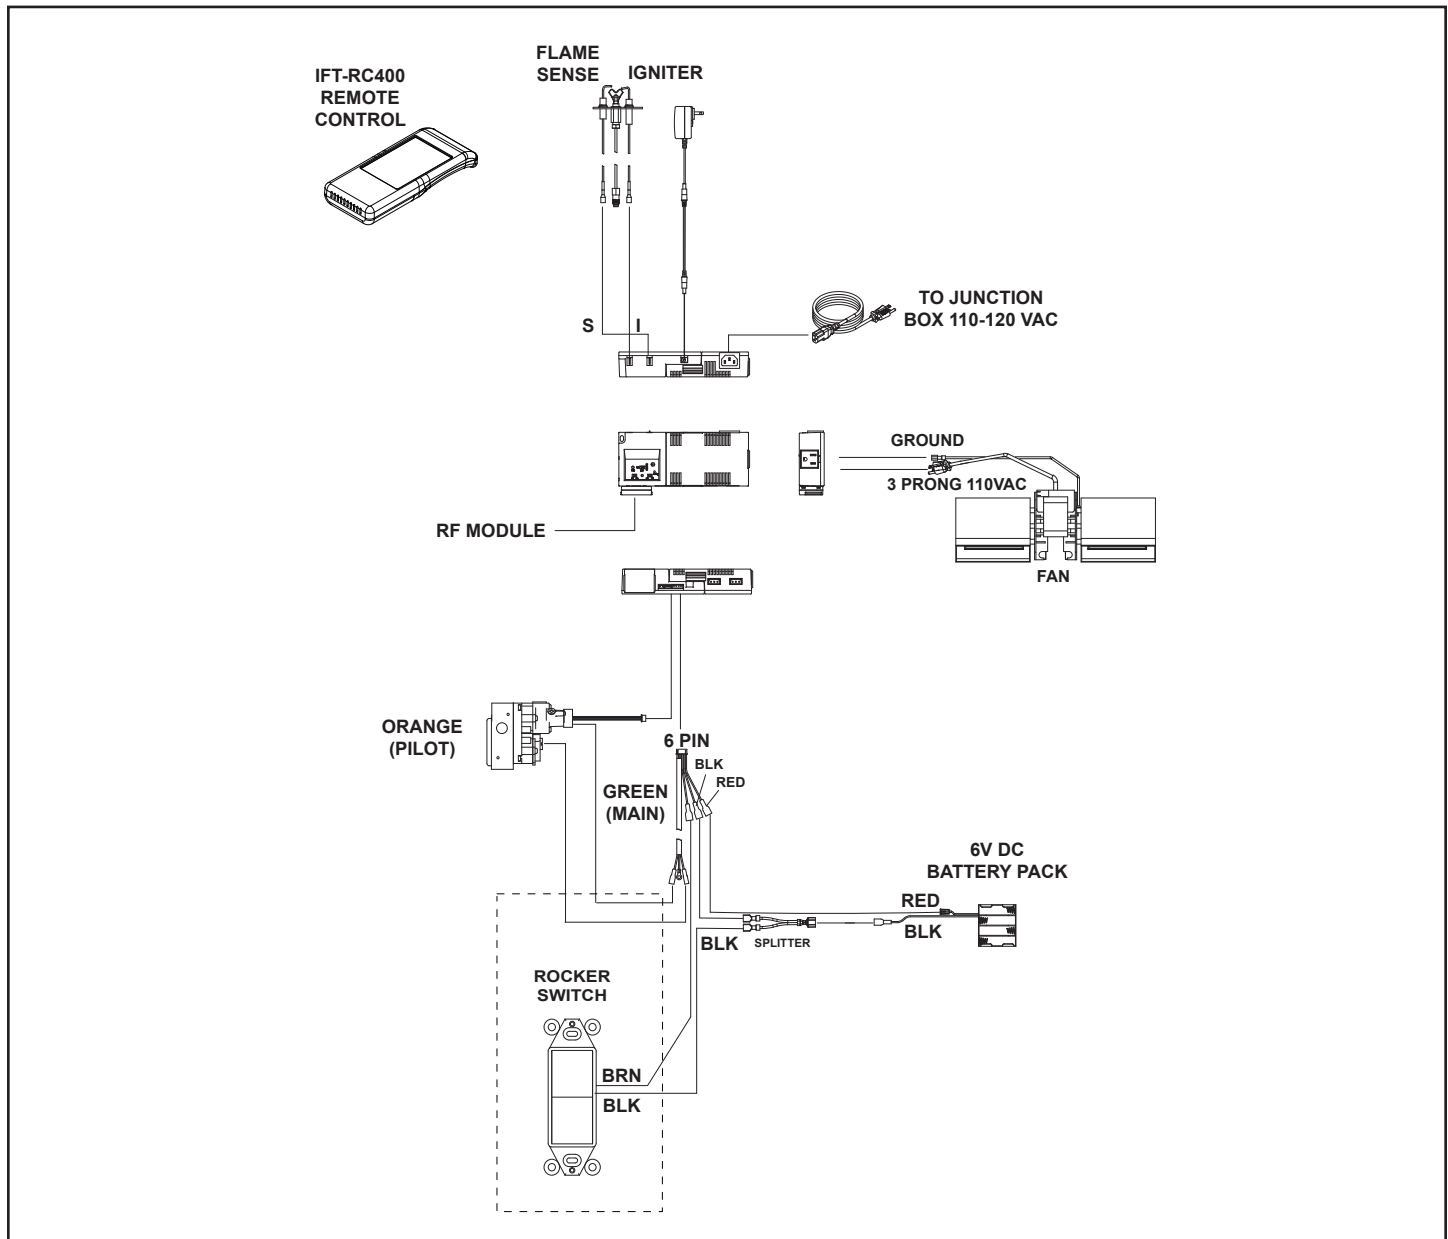

Figure 3.27 - RADVT-IFT Wiring Diagram
- Refer to Figure 3.27, IFT Wiring Diagram.